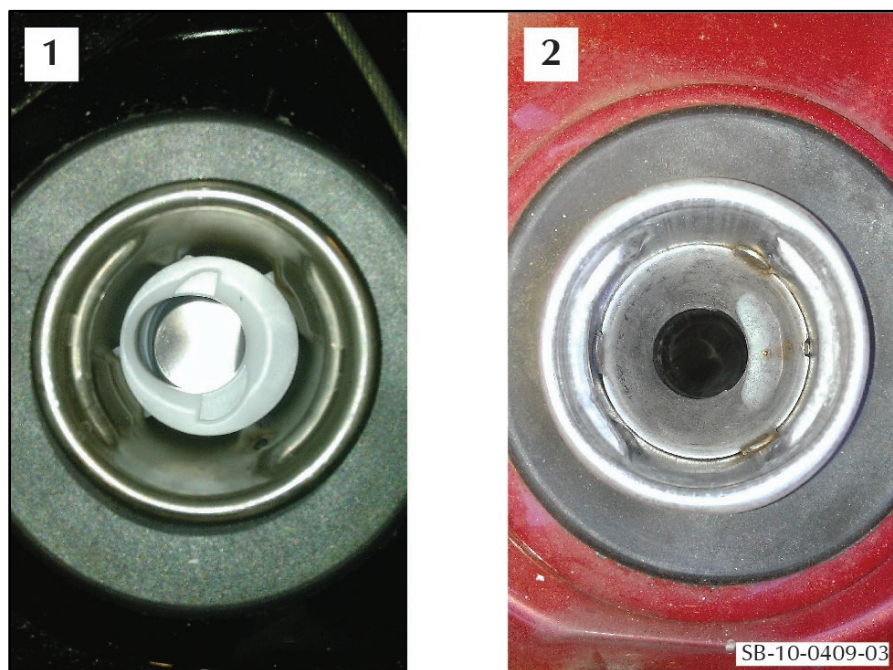

Figure 3
7. If the filling nozzle shuts off frequently, replace the existing fuel filler neck (1) with the replacement fuel filler neck (2) (refer to Workshop procedure 10.01.LC and Figure 3).